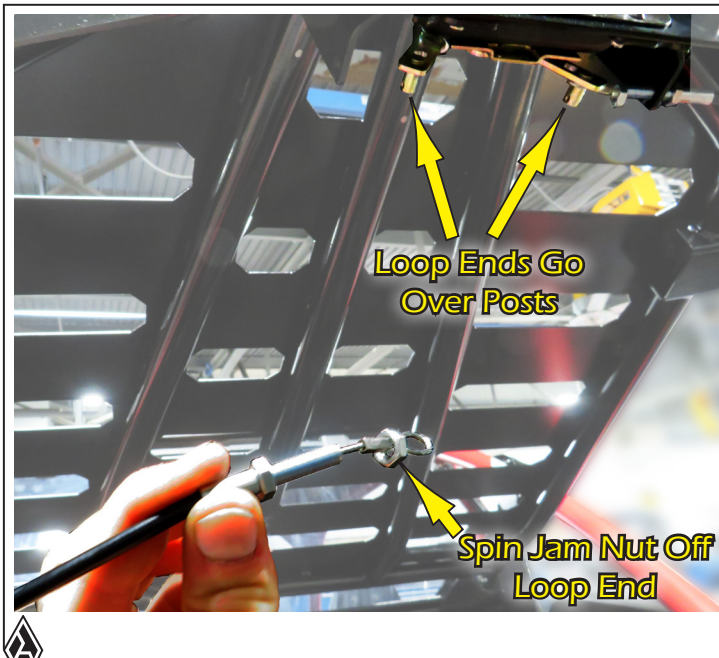
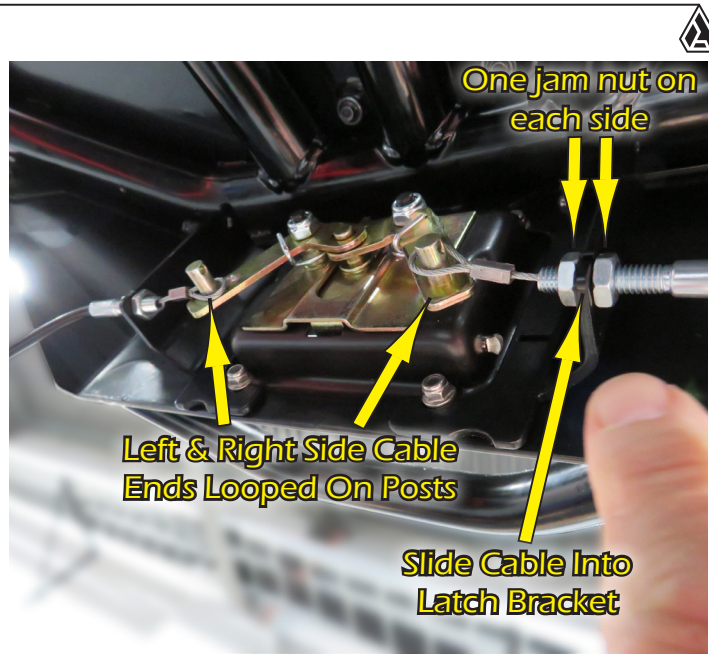

FIG.23A
FIG.23B
23. You'll now hook up the opposite end of the cable to the latch assembly. Again, spin off the Jam Nut on that side as shown in Fig.23a. You will place the Loops around the posts coming from the latch assembly also shown in Fig.23a. Fig.23b shows both cable loops over the latch posts. Also make sure that you slide the cable into the latch bracket with one jam nut on one side of it and one on the other side also shown in Fig.23b.